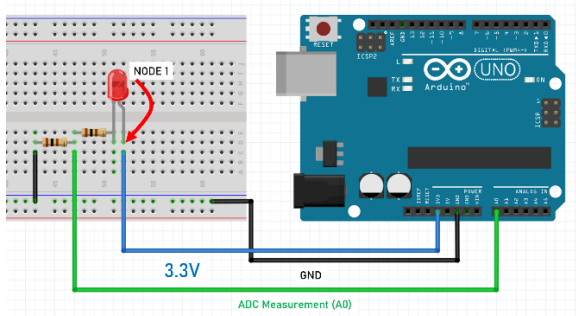

Figure 2b: 3.3V Breadboard Layout
Figure 2b and c: Physical layout of the circuit with two possible voltage sources. Note voltage sources is connected by placing a jumper wire between each voltage source one at a time at NODE1. Observe how the circuit (i.e., the LED, light emitting diode) responds.
- 1) Calculate the expected current and voltage as shown in Figure 2b circuit diagram if a 5V is applied to the circuit at NODE 1. Assume $V_{\text{diode}} = 0.7\text{V}$ (note this is an assumption, value varies for each type of diode) and is a sink (drops voltage like a resistor). For example, if 3.3V is applied, the current and voltage at Node 1 would be calculated as follows:
Build the circuit in Figure 2b using the materials listed above.
- 5) Populate the breadboard with the LED and Resistors as shown in Fig. 2b
- 6) Connect the breadboard and Arduino as shown in Fig. 2b